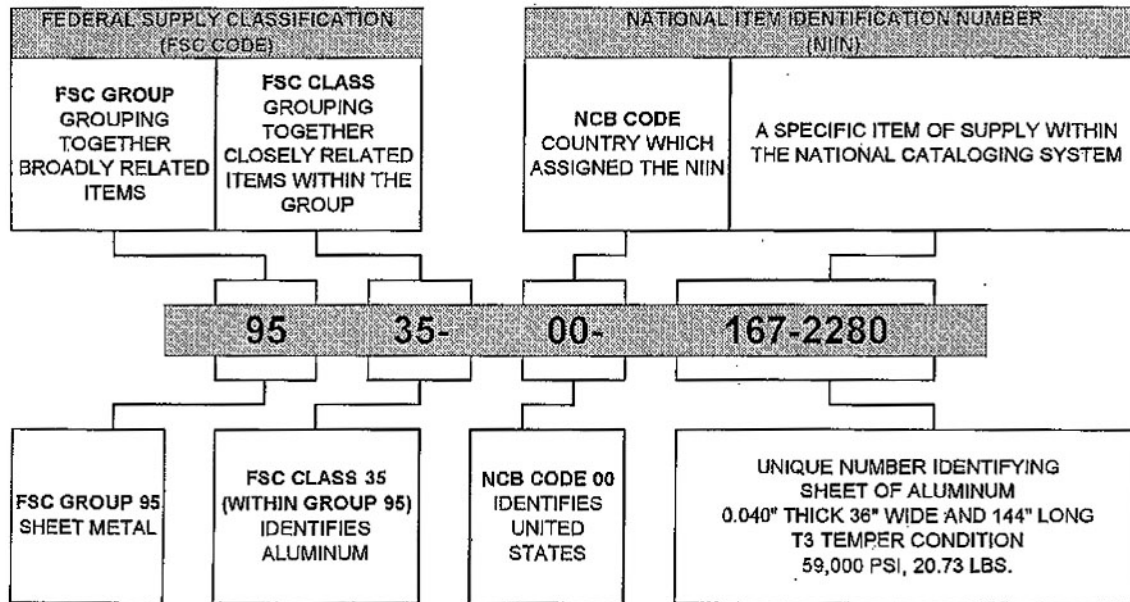

Figure 2-1. National stock number breakdown.
Look at figure 2-1 as we explore NSN 9535-00-167-2280. The first two digits (95) identify the supply group (sheet metal). The next two digits (35) indicate a specific class within the group (aluminum). From this you can conclude that all aluminum sheet metal in the supply system will be identified by an NSN that starts with the FSC of 9535. What about the rest of the number?
1. The first two digits (00 in fig. 2-1) show the National Codification Bureau (NCB) code and identifies the country that assigned the NIIN. For example, stock numbers assigned by the United States are assigned NCB code 00 (before 1974) and 01 (after 1974). Code 11 identifies a North Atlantic Treaty Organization (NATO)-assigned NSN.
2. The last seven digits of the NIIN concisely identify a specific item in the Federal Stock List. Again, refer to figure 2-1 and note that the number 167-2280 completes identification of the item. As you can see, NSN 9535-00-167-2280 describes an aluminum sheet, 0.040 inches thick, 36 inches wide, and 144 inches long with a temper condition of T3. It has a tensile strength of 59,000 pounds per square inch (psi) and weighs 20.73 pounds per sheet. You know from the NCB code that the number was assigned by the United States. If you were to change any of the description above, for example make the sheet only 0.030 inches thick, it would need to have a new, unique NSN assigned.